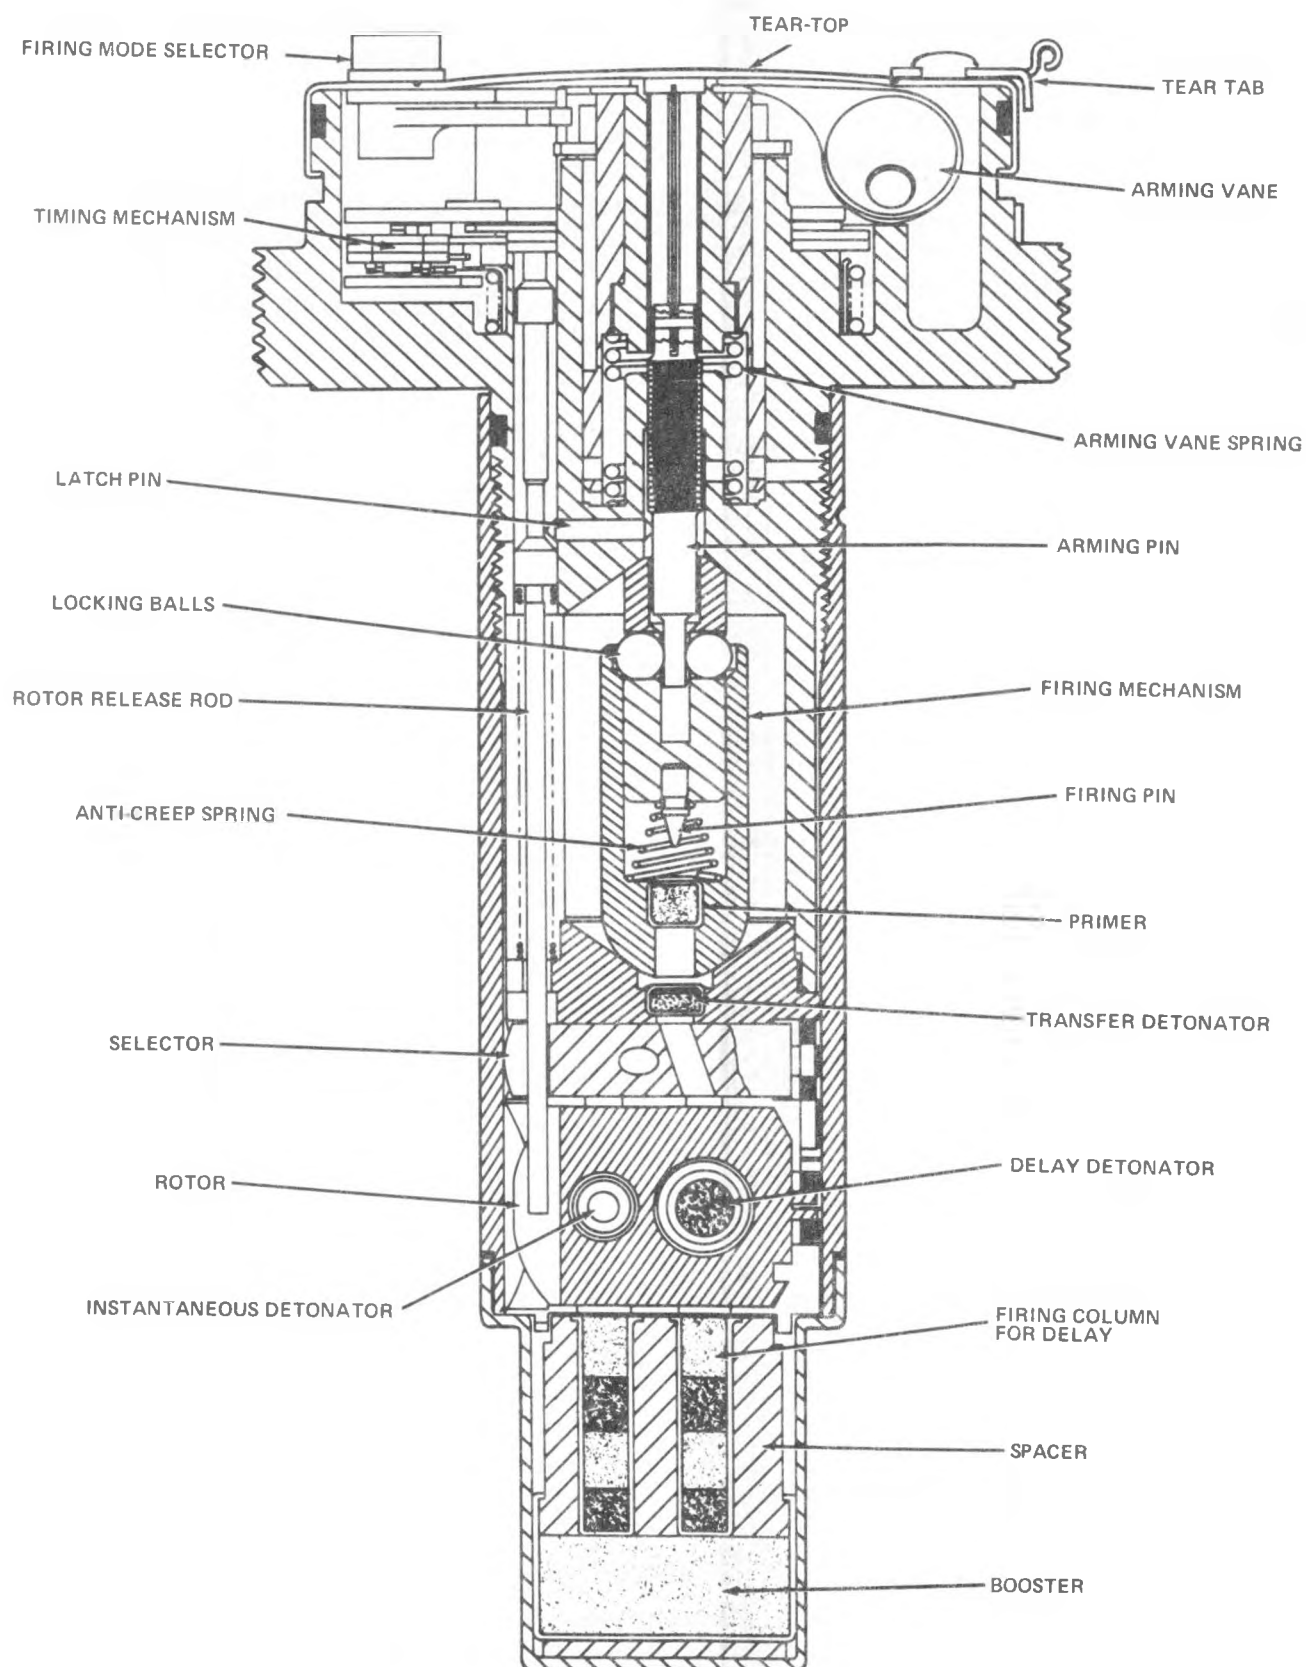

Figure 7-4. Mechanical Bomb Fuze MK 343 Mod 0 — Cross Section View
itiates two separate and simultaneous arming actions: (1) an arming vane pops up and rotates in the airstream and (2) a timing mechanism is started (figure 7-4).